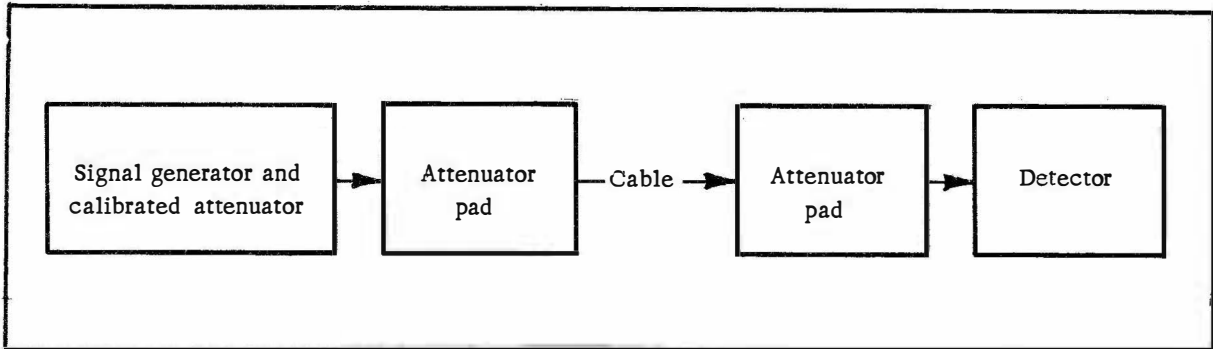

Figure 3-3. Attenuation Measurement.
b. Connector Testing. - Before a connector is installed on a cable, it should be given an insulation resistance test to make certain that it is not defective. Small coaxial fittings, in which the center conductor is not readily accessible, may be tested by use of a mating fitting converted to a test jig as shown in figure 3-3.